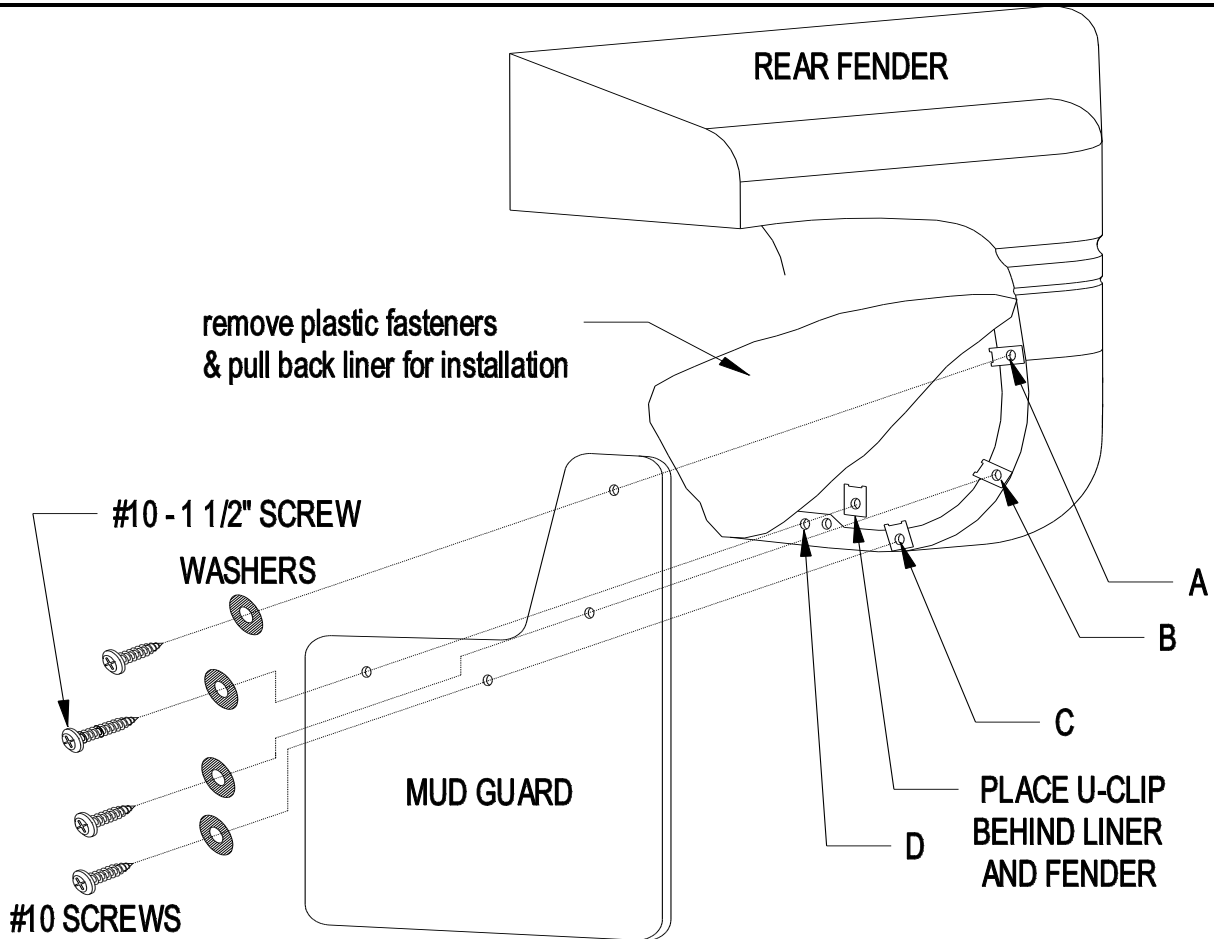

Figure 1
2. Remove existing plastic fasteners from locations A, B, C, & D by cutting off the heads of the fasteners and pushing the remaining piece through the liner attachment hole (Figure 1).
3. Pull back fender liner to expose attachment holes (Figure 1).